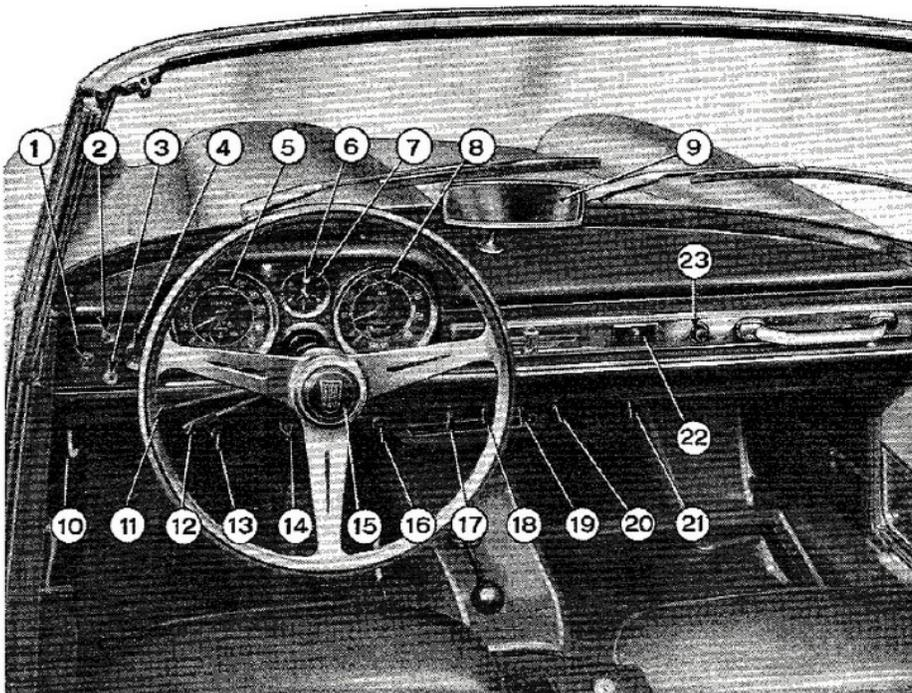

Fig. 7.
11) **Outer lighting change-over switch lever** (operative when switch 1, fig. 7, is ON).
With switch 1, fig. 7, OFF the low beam flashes can be obtained with lever in any of the three positions.